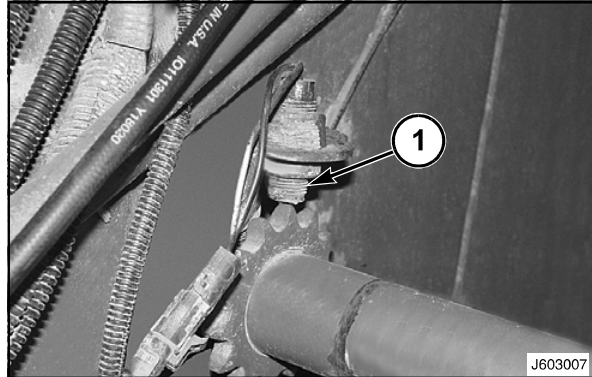

FIG. 47
FIG. 47: The PTO, shearbolt, packer slip, baler timing, feeder slip, and cutter inductive sensors are actuated by sprocket teeth. Align a sprocket tooth with the sensor (1). The gap between the sensor and sprocket tooth must be 0,50 to 0,75 mm. Adjust the sensor by loosening one nut on the sensor and tightening the other. Do not tighten the nuts to more than 7 Nm.